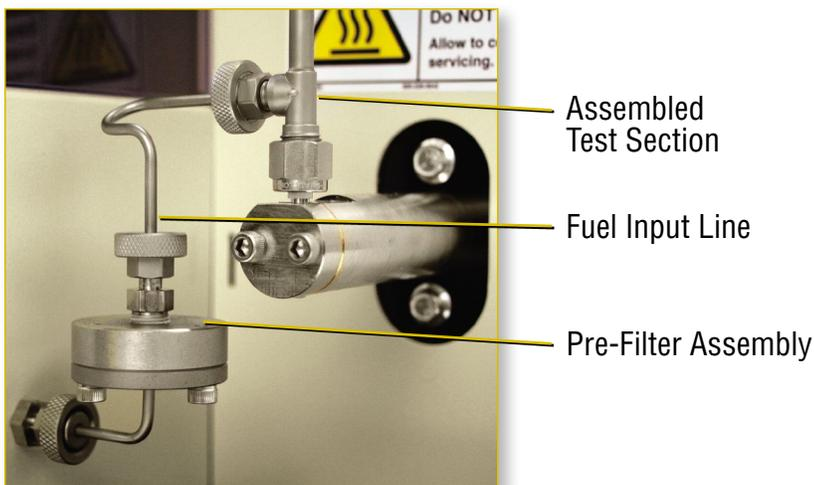

Figure 25 Fuel Input Line to Assembled Test Section
22. Attach the pre-filter assembly to the assembled test section using the fuel input line [Figure 25]. Inspect the O-rings on both ends of the sample line union. Replace if missing or damaged.